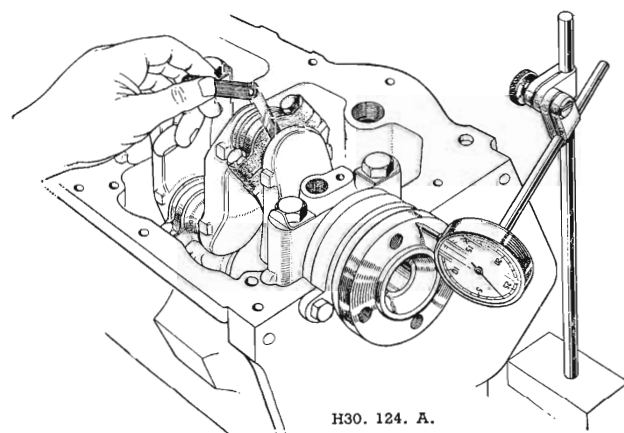

Fig. A.29. A feeler gauge being used to measure connecting rod side clearance and a dial gauge to check crankshaft end float.
- (1) Remove the engine from the vehicle (see Section A.4) and place it upside-down in a dismantling fixture.
- (2) Remove the sump and oil strainer (see Section A.7).
- (3) Remove the timing chain (see Section A.27).
- (4) Remove the flywheel and engine rear plate (see Section A.29).
- (5) Check the crankshaft end float to determine whether the renewal of the thrust washers is necessary (Fig. A.29).
- (6) Remove the connecting rod bearing caps and shells, keeping the shells with their respective caps for correct replacement, and release the connecting rods from the crankshaft. Remove the sparking plugs from the cylinder head to facilitate the turning of the crankshaft.